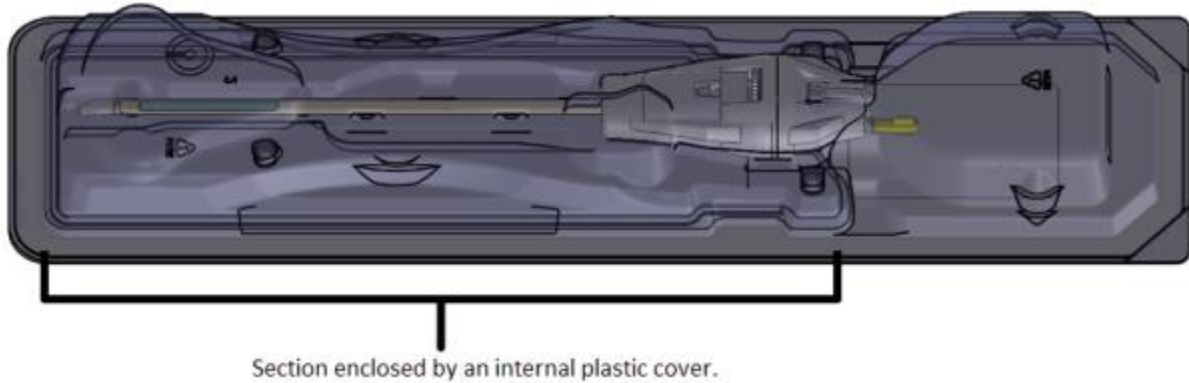

Figure 7: UA sealed inside a sterile package
**NOTE:** MRI Technologist: The ECD is *not* sterile and can be handled accordingly. The UA and contents inside the UA packaging **are** sterile. *Figure 7* shows the UA inside its sealed and sterile package. There is another plastic cover that encloses the UA from its tip to the top of the handle that exposes the UA cable and guidewire inputs and fluid tubes. When you connect the fluid tubes and UA cable, the UA's sterile barrier will have to be broken. Keep the internal plastic cover over the UA during preparation to limit contamination to only the top of the UA handle.